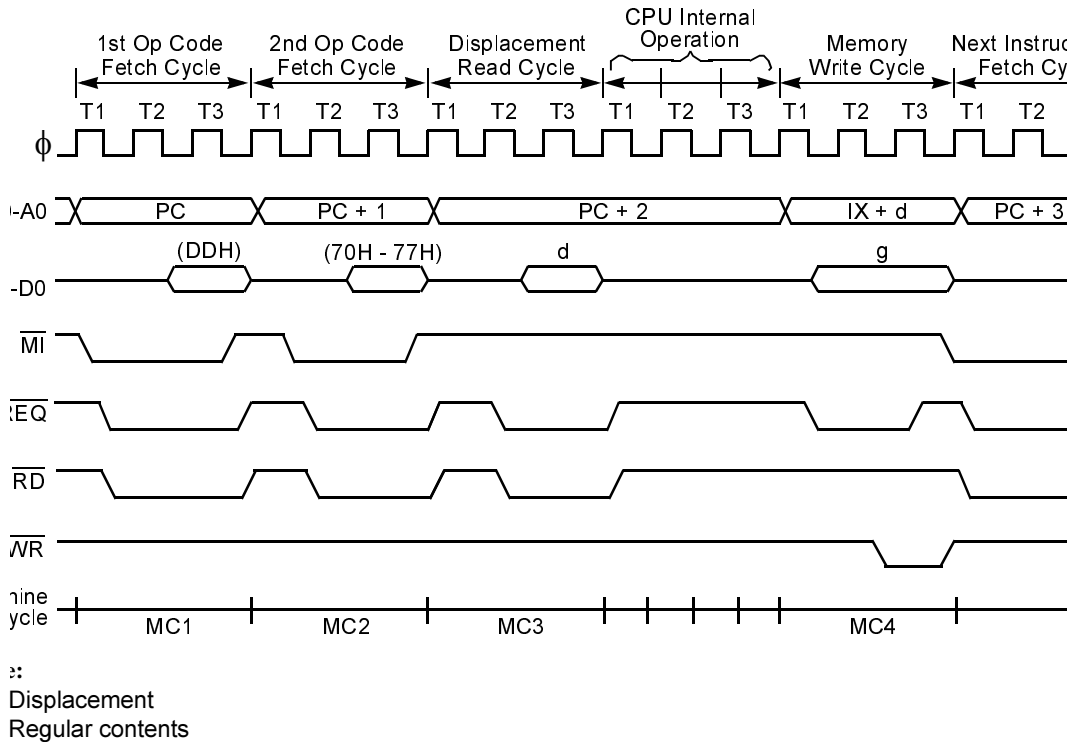

Figure 7. Instruction Timing
Figure 7 illustrates the bus timing for the data-transfer instruction ($LD (IX+d),g$). This instruction moves the contents of a CPU register (g) to the memory location with address computed by adding a signed 8-bit displacement (d) to the contents of an index register (IX).